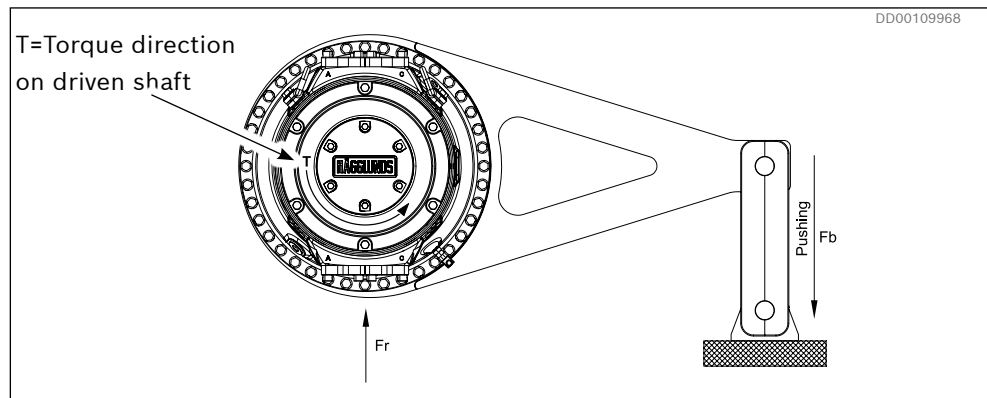
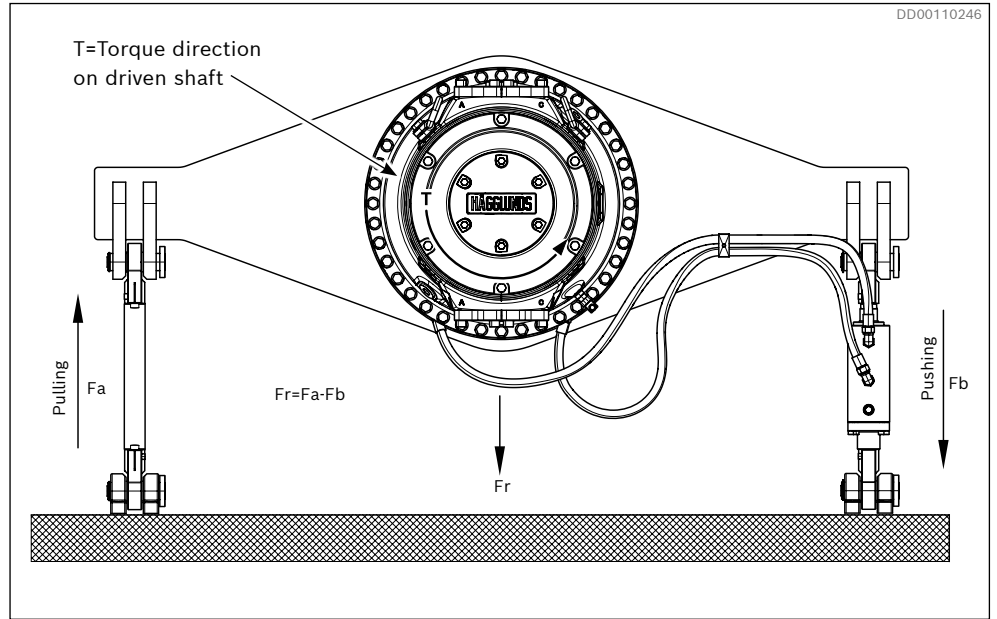

Fig. 21: External forces Fr, Fb for TC A
Fig. 30: External forces Fr, Fa, Fb for DTCA_ and DTCB_
2. Oil the screws (1).
3. Make sure that the foundation can withstand the forces from the torque arm (see *Fig. 21*, *Fig. 30*, *Table 9* and *Table 12*).
6. Tighten the screws (1) to the torque stated in *Table 7*.
- ▶ Make sure the foundation and the customer machine can withstand the forces from the torque arm. See *Fig. 21*, *Fig. 30*, *Table 9* and *Table 12*.